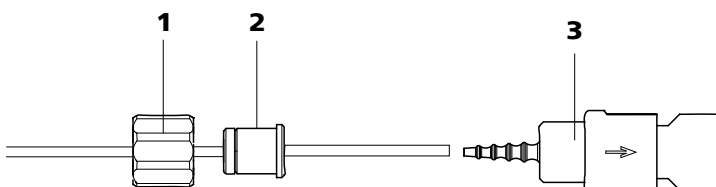

Figure 33 Install pump tubing connection with filter
- **Case A:** a 6.2744.180 pump tubing connection **with filter** (see Figure 33, page 60) or